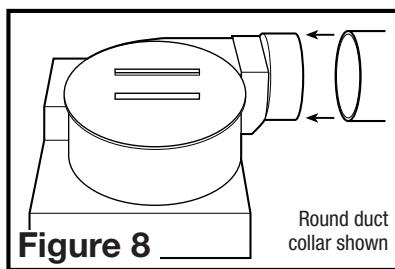

Figure 8
1. Connect the ducting to the fan's duct collar (**Figure 8**). Secure in place using tape or screw clamp. Always duct the fan to the outside through a wall or roof cap. It is recommended that low restriction termination fittings be used.